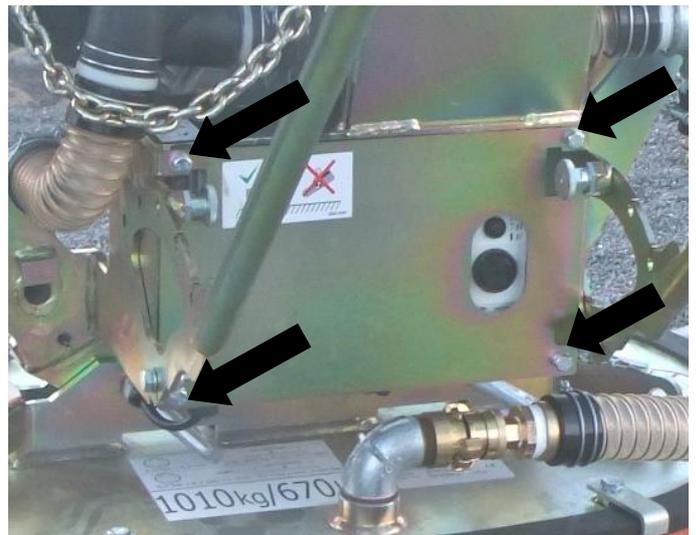

Fig. 10
- Therefore remove the 4 screws (at the front covering - see arrows ↙ in Fig. 10) and connect the negative and positive pole of the charger at the battery.